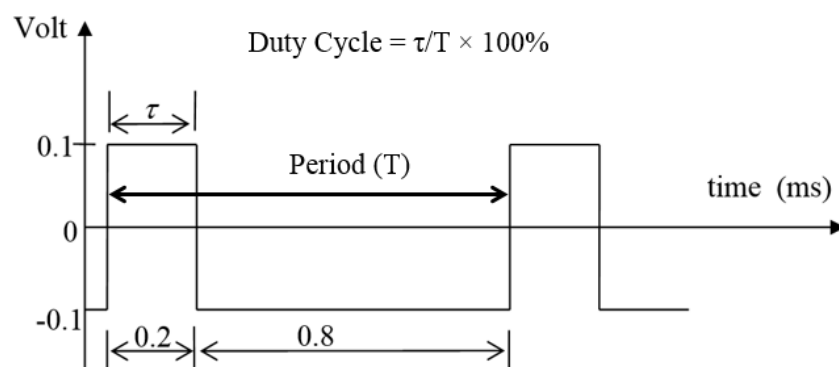

Figure E1.8 Rectangular waveform
B. Generate and display a rectangular wave shown in Figure E1.8.